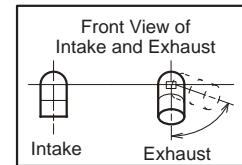

Figure 41.
NOTE - Flue gas may be slightly acidic and may adversely affect some building materials. If any vent termination is used and the flue gasses may impinge on the building material, a corrosion-resistant shield (minimum 24 inches square) should be used to protect the wall surface. If the optional tee is used, the protective shield is recommended. The shield should be constructed using wood, plastic, sheet metal or other suitable material. All seams, joints, cracks, etc. in the affected area should be sealed using an appropriate sealant. See **Figure 41**.
short as possible. See **FIGURE 41**.
- 6 - On field supplied terminations, a minimum distance between the end of the exhaust pipe and the end of the intake pipe without a termination elbow is 8" and a minimum distance of 6" with a termination elbow. See **Figure 41**.
7 - If intake and exhaust piping must be run up a side wall to position above snow accumulation or other obstructions, piping must be supported. At least one bracket must be used within 6" from the top of the elbow and then every 24" (610 mm) as shown in **Figure 41**, to prevent any movement in any direction. When exhaust and intake piping must be terminated with pipe sized per **Table 10**. The intake piping may be equipped with a 90° elbow turndown. Using turndown will add 5 feet (1.5 m) to the equivalent length of the pipe.